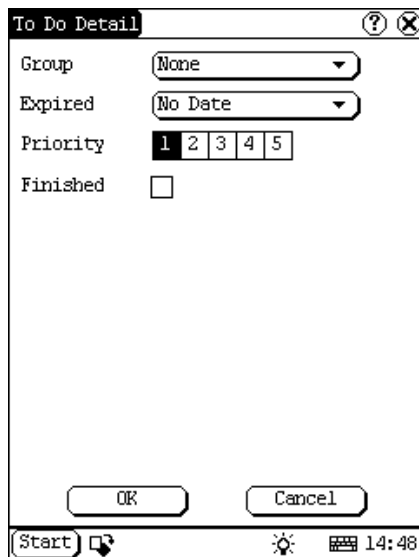

Figure 4-25
- 3) Click [Detail] button to open the To Do Detail interface. See Figure 4-25.